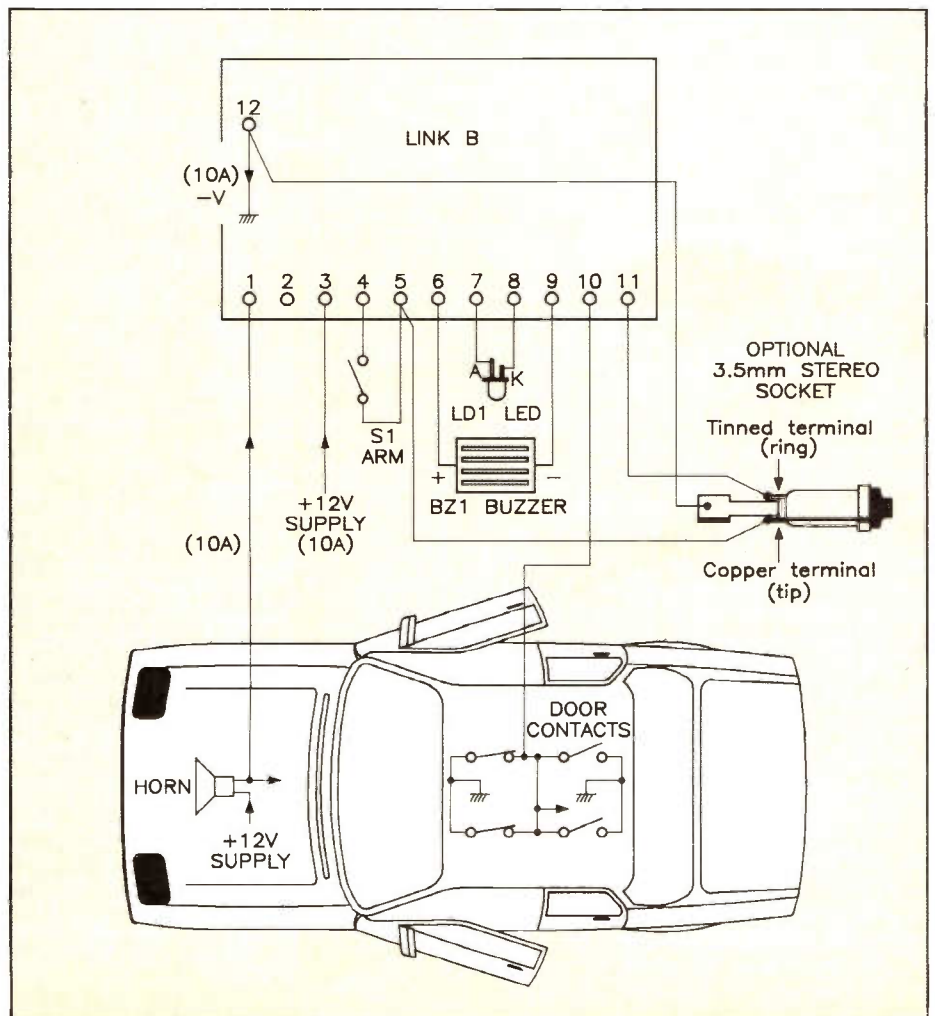

Figure 6. Link B wiring.
2. If the horn has one of its terminals connected directly to the +12V supply link B must be fitted, see Figure 6.